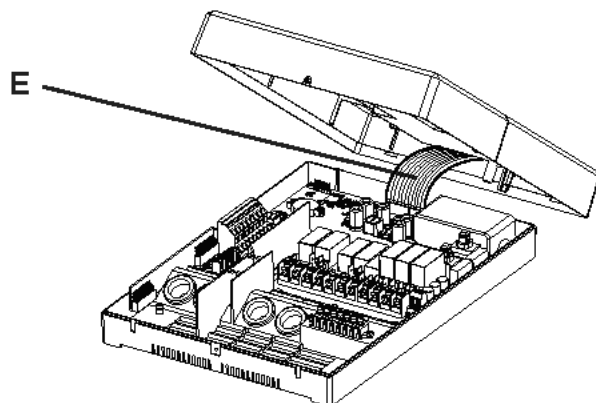

Fig. 3 Unplug ribbon cable
3. Pull gently on ribbon cable **E** to release it from the connection socket (Fig. 3).